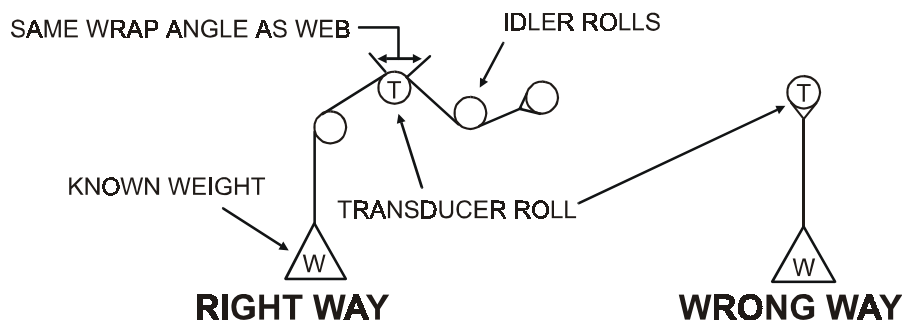

Figure 8 - WEB PATH
5. Fasten one end of the rope in the machine and thread the other end around the transducer roll in exactly the same path as the web will take. Be sure it does not pass around any driven rolls, drag bars, or anything else that can affect tension. Refer to Fig. 8 below.
This may happen if the setting for the calibration point is not logical (below the zero point). Check the force direction of the transducers per the manual. Attach the weight as shown in Fig. 8.